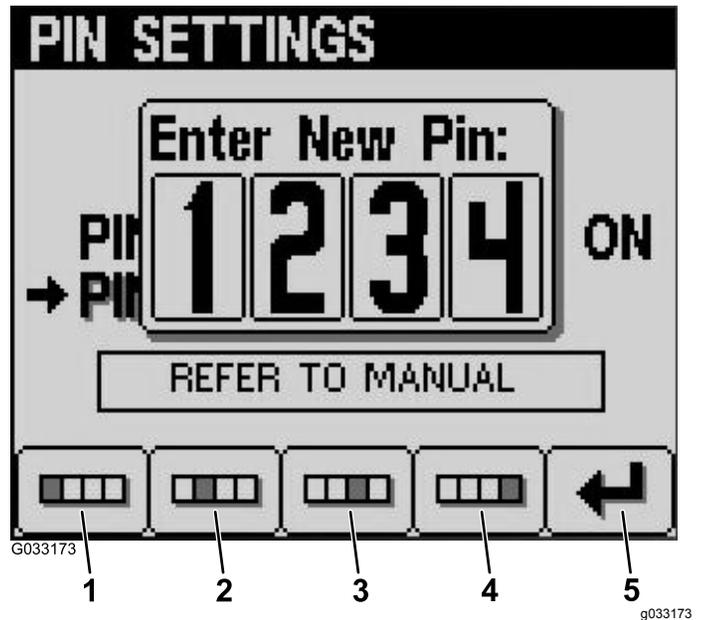

Figure 25
7. Enter your new PIN using buttons 1 to 4 and press button 5 when you complete your new PIN (Figure 25).